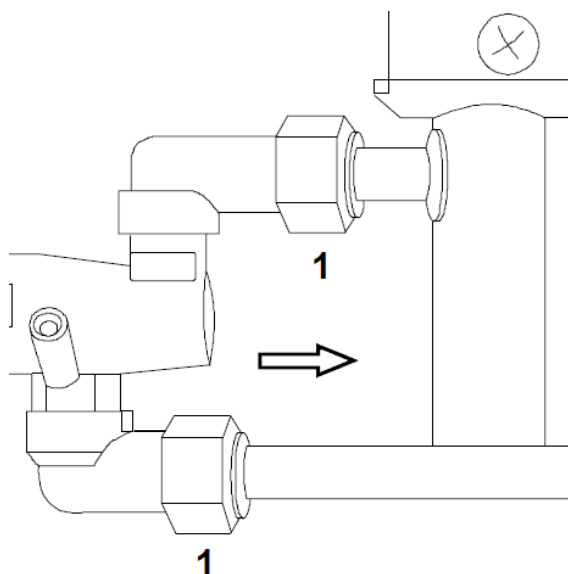

FIG.19 (REMPLACEMENT DU ROBINET DE GAZ)
- ENLEVER LE ROBINET DES RACCORDS DE JONCTION AUX CANALISATIONS DU GAZ (FIG.19-RÉF.1);